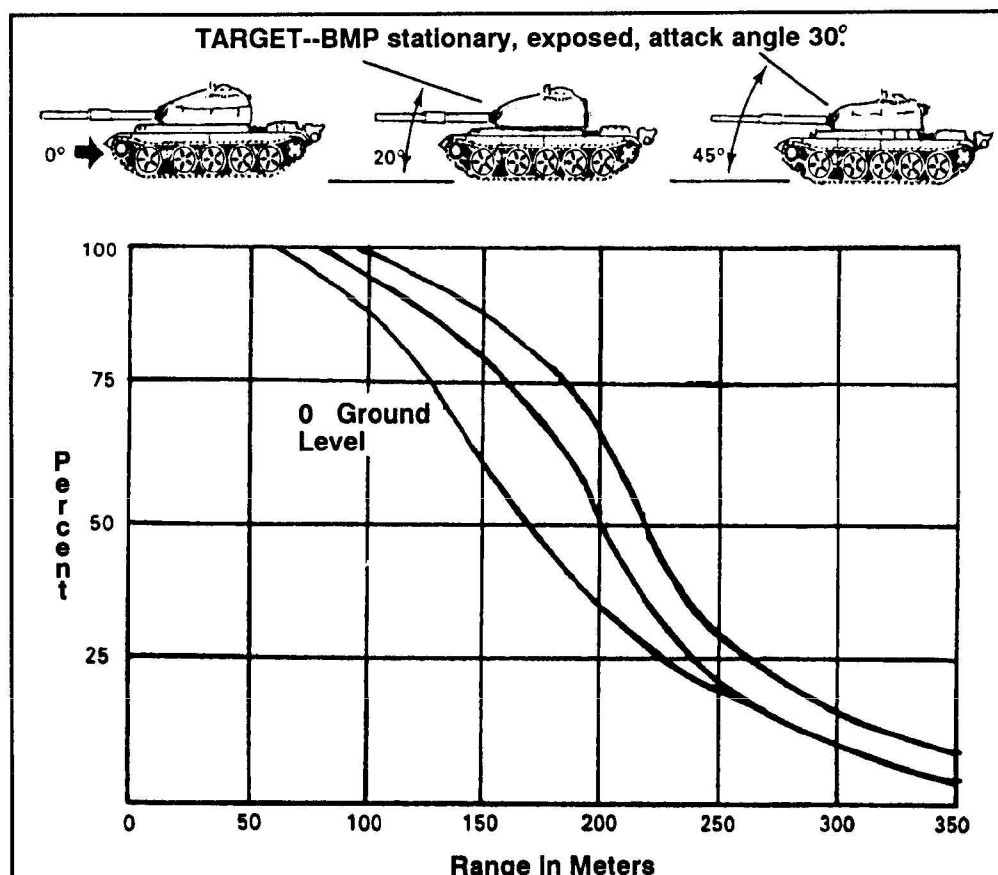

Figure 8-4. Probability of achieving a hit at different angles using an M72A2 LAW.
(4) Light and medium recoilless weapons obtain their most effective short-range antiarmor shots by firing from upper stories, or from the flanks and rear. When firing at main battle tanks, these weapons should always be employed against these weaker areas in volley or paired firing. They normally require multiple hits to achieve a kill on a tank. Flanks, top, and rear shots hit the most vulnerable parts of armored vehicles. Firing from upper stories protects the firer from tank main gun and coaxial machine gun fire since tanks cannot sharply elevate their cannons. The BMP-2 can elevate its 30-mm cannon to engage targets in upper stories. The BTR-series armored vehicles can also fire into upper stories with their heavy machine gun.
(5) Modern infantry fighting vehicles, such as the BMP-2 and the BTR-80, have significantly improved frontal protection against shaped-charge weapons. Many main battle tanks have some form of reactive armor in addition to their thick armor plate. Head-on, ground-level shots against these vehicles have little probability of obtaining a kill. Even without reactive armor, modern main battle tanks are hard to destroy with a light antiarmor weapon.
(6) The easiest technique to use that will improve the probability of hitting and killing an armored vehicle is to increase the firing depression angle. A 45-degree downward firing angle doubles the probability of a first-round hit as compared to a ground-level shot (see Figure 8-4).